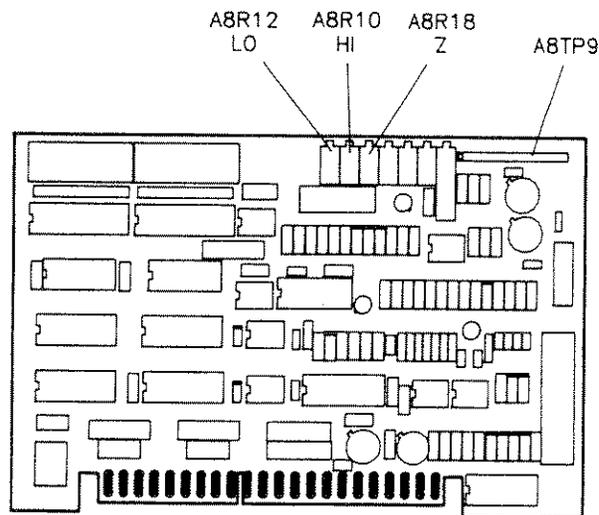

Figure 5-18. YO Delay Compensation Adjustment Locations
5. Adjust A8R18 (Z) for a DVM reading equal to the voltage noted in step 3. Remove the DVM test leads. See figure 5-18 for adjustment locations.